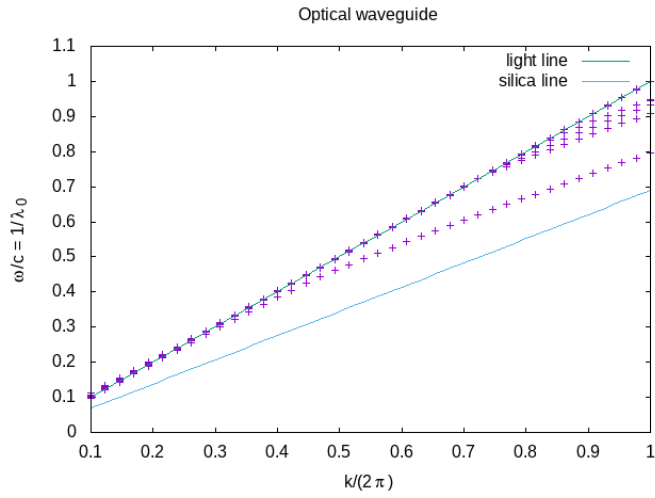

Figure 3: Dispersion relation of a silica microwire.
2. Run the script and plot the dispersion relation. An example `fiber.plt` gnuplot script is given to plot Figure 3. What are the light and silica lines, and what are they useful for?